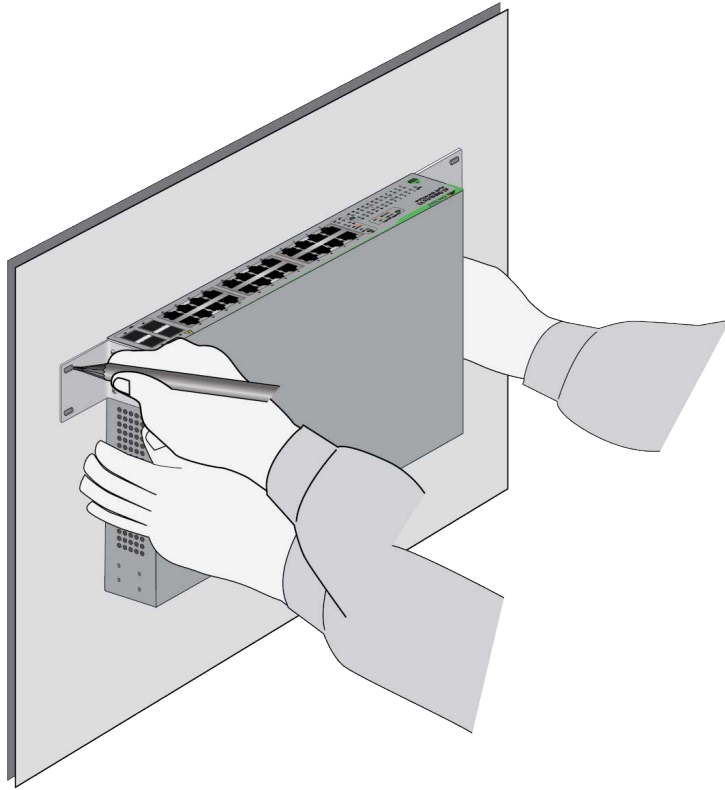

Figure 48. Marking the Locations of the Bracket Holes on a Concrete Wall
3. Have another person hold the switch on the concrete wall at the selected location for the switch while you use a pencil or pen to mark the wall with the locations of the four screw holes in the two brackets. Refer to Figure 48 on page 71.